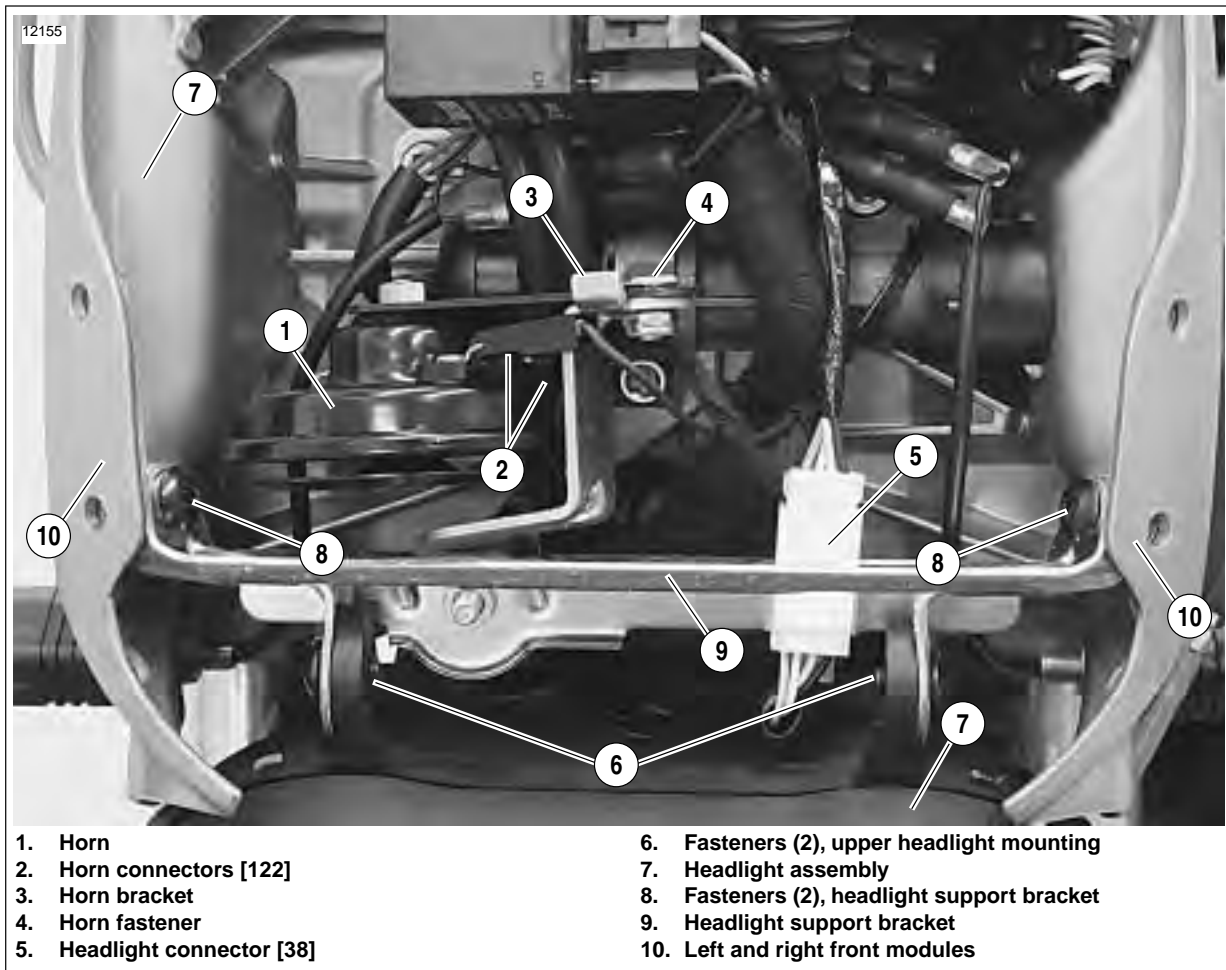

Figure 2-109. Electrical Connectors Behind Windscreen
1. See Figure 2-109. Install headlight support bracket (9).
2. Apply LOCTITE 271, install fasteners (8) securing headlight support bracket to left and right front modules (10) and tighten to 48-72 **in-lbs** (5.4-8.1 Nm).
- a. Install headlight assembly (7) into headlight support bracket (9).
- b. Install both upper headlight fasteners (6) but do not tighten.
4. Attach headlight connector (5) to headlight support bracket.
5. Connect headlight connector [38] (5).
6. Install horn (1) and tighten fastener (4) to 72-96 **in-lbs** (8-10.8 Nm).
7. Connect horn connectors [122] (2).